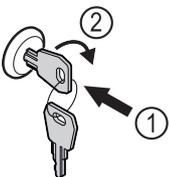

Fig. 176 Example illustration
- ▶ Insert key Fig. 176 (1).
- ▶ Turn key clockwise by 90° Fig. 176 (2).